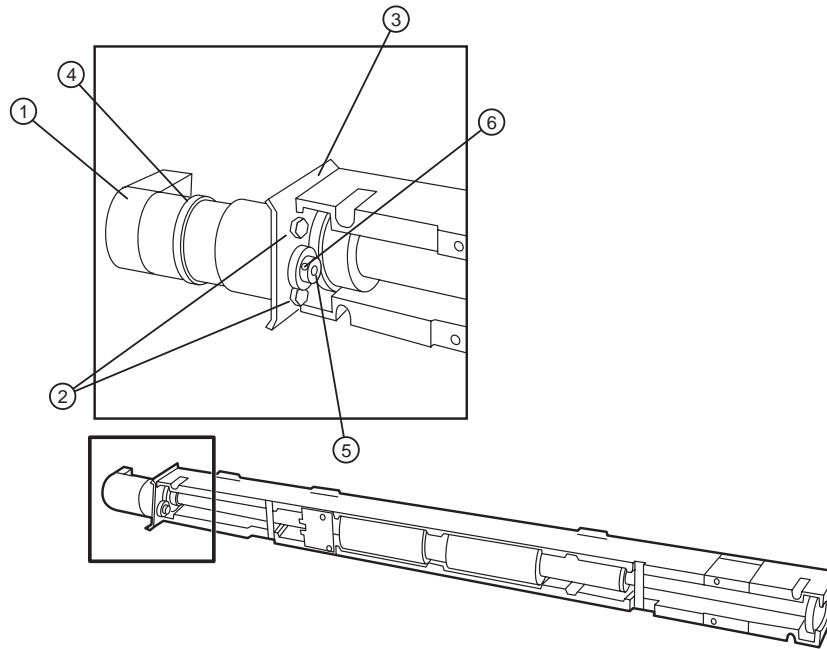

Figure 4-11 Inner take-up drive (nip) motor assembly
- Cut the tie wraps on the motor. Refer to Figure 4-11.
- Using a 1/4" nut driver, remove the two (2) hex nuts attaching the motor to the bracket. Refer to Figure 4-11.
- Remove the allen screw from the motor gear. Refer to Figure 4-11.
1. Install the take-up drive motor using the two (2) 1/4" bracket screws removed in Step 11 in the removal procedure above. Refer to Figure 4-11.
2. Install the motor gear. Refer to Figure 4-11.
3. Cut the tie wraps holding the wires to the motor. Refer to Figure 4-11.